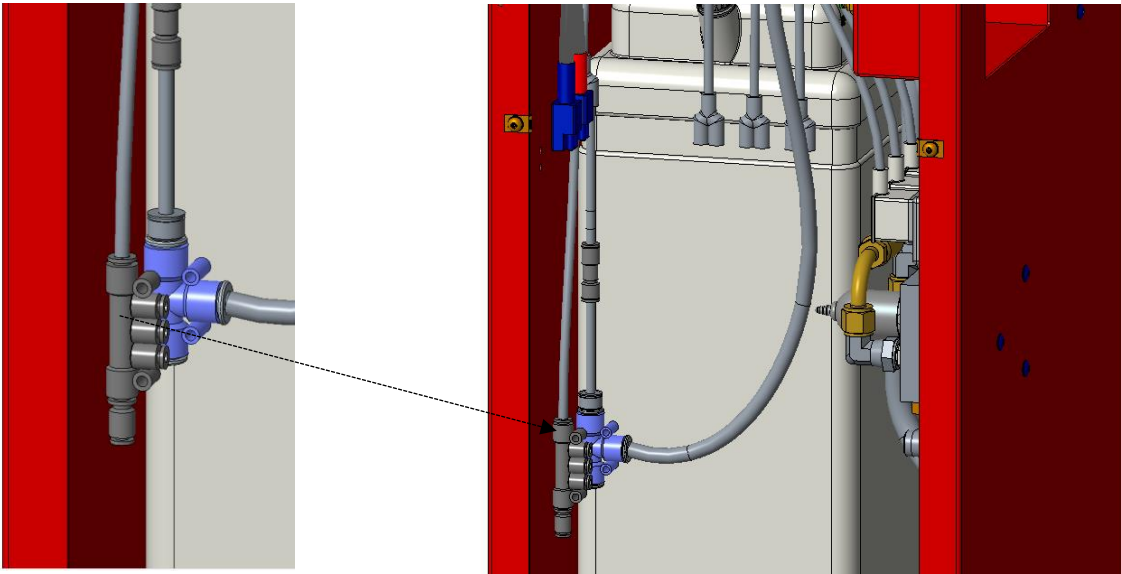

Figure 13 - Pneumatic Switch Supply Line Connections (Console)
1. Route two red Ø4mm air lines labeled with “EQ SUPPLY” and “LMT SUPPLY” from left side base frame and one red Ø4mm air lines labeled with “EQ SUPPLY” from right side base frame to console and connect them to the “5 PORTS MANIFOLD” fitting in console (Figure 13).